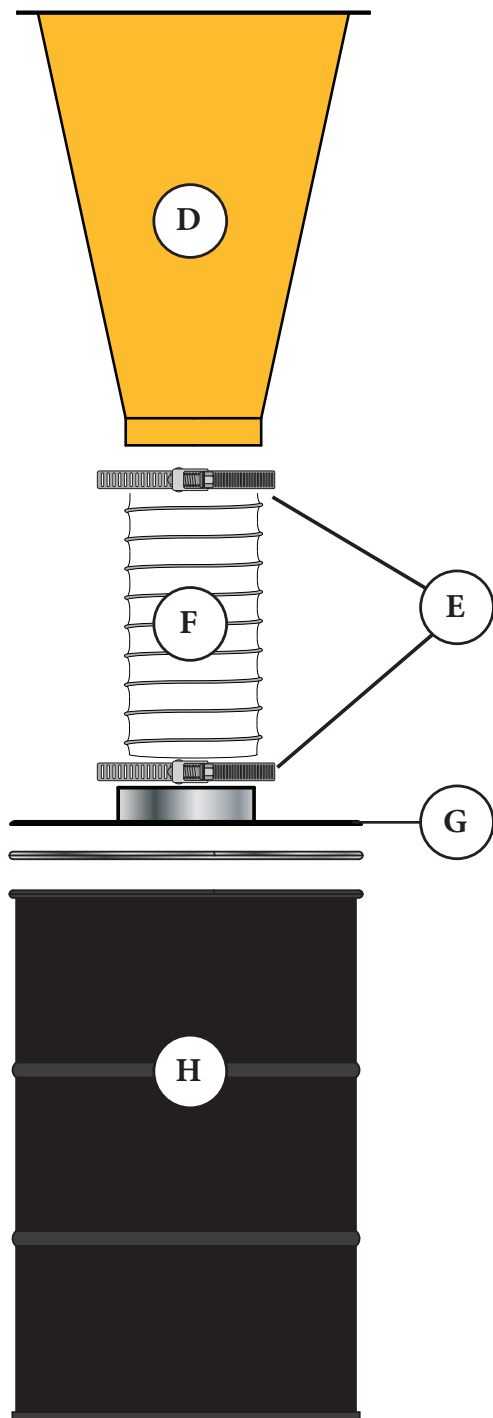

FIG. 15
Attach Hose (F) to the Cone's (D) discharge, and secure it in place with the Clamp Band (E). [FIG. 15]